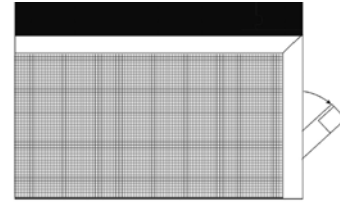

Figure 4
- 6) Open the air cleaner (fig 4), remove the old media pad and discard.